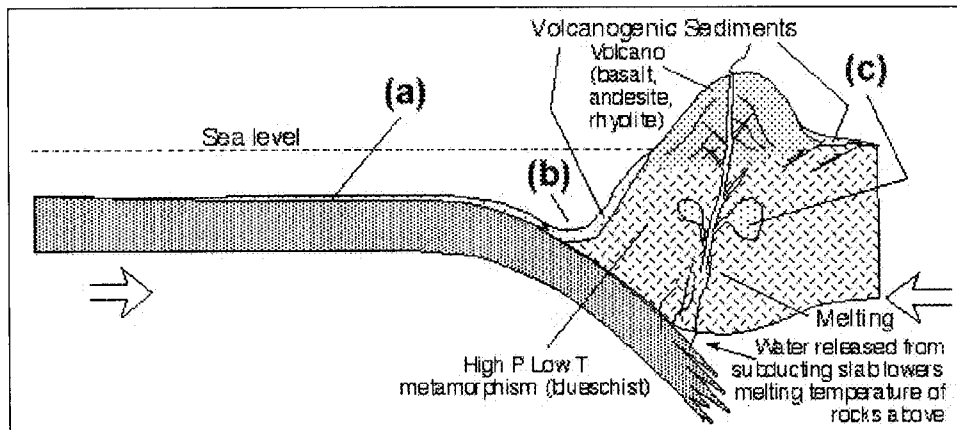

Figure 2
- Q2. (a) Name the convergent plate boundary shown in Fig 2.